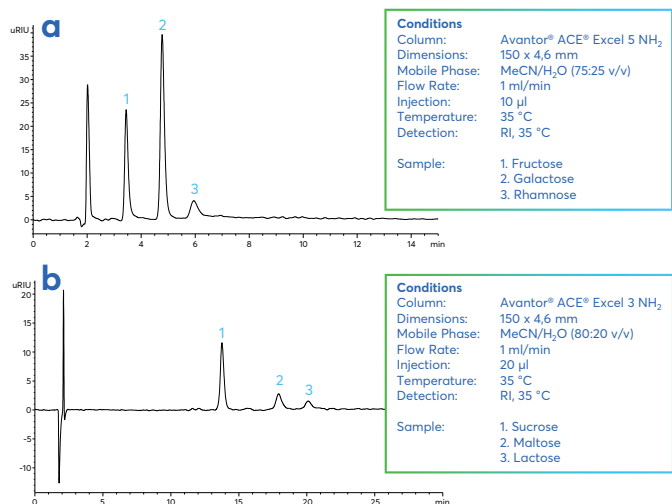
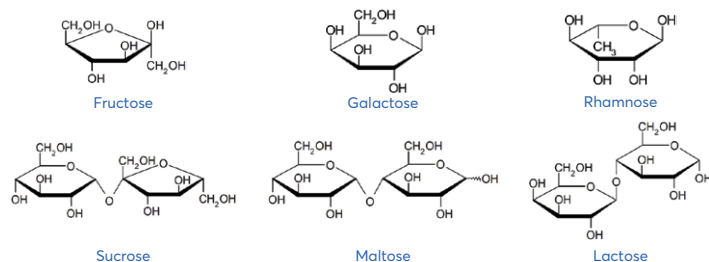

Figure 1: Separation of a) monosaccharides and b) disaccharides on the Avantor[®] ACE[®] NH₂.
Figure 2: Structures of mono- and di-saccharides chromatographed in Figure 1.
The method was then applied to the analysis of two commercially available energy drinks (Figure 2) and was proved to be suitable for detection of all eight analytes without interference from other sample peaks. Energy drink samples were decarbonated and filtered, prior to direct injection onto the HPLC system. Caffeine was found to be present in the largest quantity in both energy drinks. The standard amount of caffeine found in energy drinks is 80 – 150 mg per serving, with anything containing over 150 mg/L needing to be stated as having a “high caffeine content” and being unsuitable for consumption by children and pregnant women. The two drinks analysed in this study contain approximately 300 mg and 120 mg/L of caffeine respectively. The average daily caffeine consumption for adults is recommended not to exceed 400 mg on a regular basis.
Figure 2: Analysis of two commercially available energy drinks using the method conditions as stated in Figure 1. Analytes: 1. Pyridoxine (B6), 2. Citric acid, 3. Pantothenic acid (B5), 4. Acesulfame K, 5. Caffeine, 6. Aspartame, 7. Sorbate, 8. Benzoate.
Figure 1 shows example separations of both monosaccharides (a) and disaccharides (b), the structures of the sugars analysed are presented in Figure 2. Full separation of both standard mixes was readily achieved on the Avantor[®] ACE[®] NH₂ with excellent resolution of the sugar components obtained. One of the challenges associated with sugar analysis is the lack of a UV chromophore, thereby eliminating the use of the ubiquitous UV detector. In this application, detection is readily achieved using a VWR[®] Hitachi Chromaster HPLC system equipped with a 5450 Refractive Index (RI) detector. The design of the detector provides a stable signal and minimal baseline drift which is often associated with this type of detector.